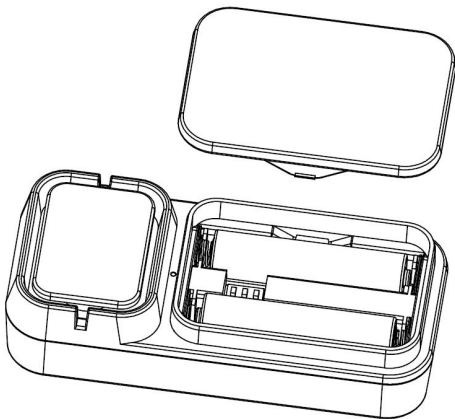

Figure 2: Battery installation
1.Remove the battery door on the back of the transmitter(s) by taking off the cover, as shown in Figure 2 .